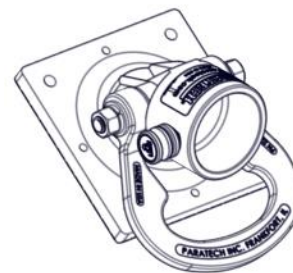

Figure 1-13. Hinged Base 6 w/Anchor Ring
j. **Hinged Base 6 w/Anchor Ring.** The Hinged Base 6 w/Anchor Ring (Figure 1-13) is similar to Hinged Strut Base 6 except with a 5000 lbs working load Anchor Ring added to the base.